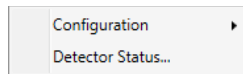

Figure 3-48 – TSS Detector Context Menu
- **TSS Detector Context Menu** (see Figure 3-48): This context menu allows the operator to view the status of the detector.